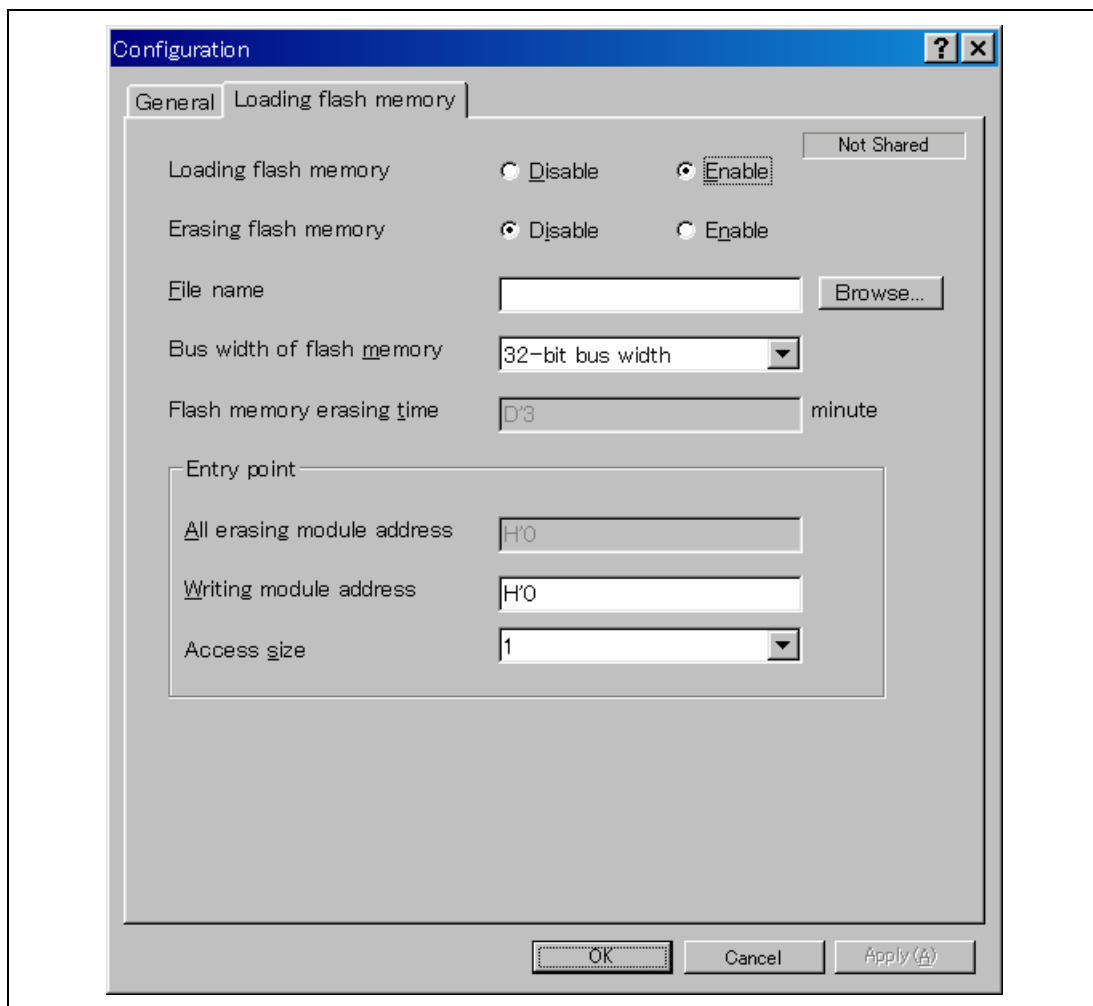

Figure 6.52 [Loading flash memory] Page
2. This function is not available depending on the MCU. For such an MCU, the [Loading flash memory] page shown in figure 6.52 will not be displayed.